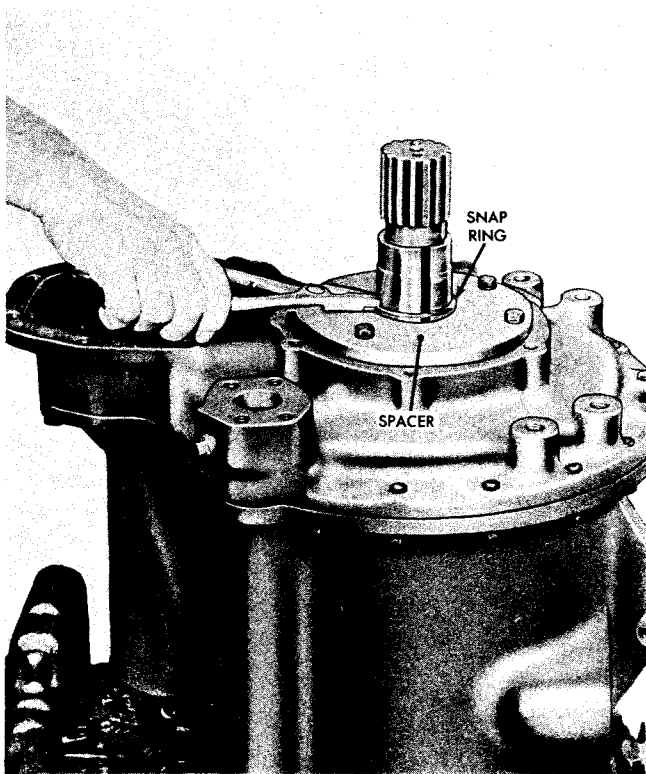

Fig VI-77. Removing or installing snap ring from output shaft
(5) Remove the snap ring from the output shaft (fig VI-77).
(6) The transmission may not be equipped with an output driven oil pump assembly. In this case remove the bolts and lock washers from the spacer that takes the place of the output driven oil pump assembly (fig VI-77). Remove the spacer.
(3) Install the spacer that takes the place of the oil pump assembly if the transmission is so equipped (fig VI-77). Secure the spacer with five bolts and lock washers.
(5) Install the snap ring on the output shaft (fig VI-77).